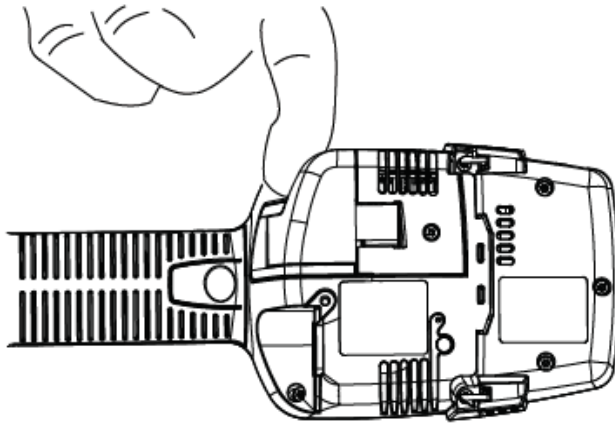

Figure 8-2: Opening the sensing element compartment (1)
Step 1: Turn the Fido X4 over so the underside is exposed, with the battery pointing toward you. Keep the unit horizontal as shown in Figure 8-2.
Step 2: Apply pressure from beneath the sensing element compartment door to pop open the latch, as shown in Figure 8-2.